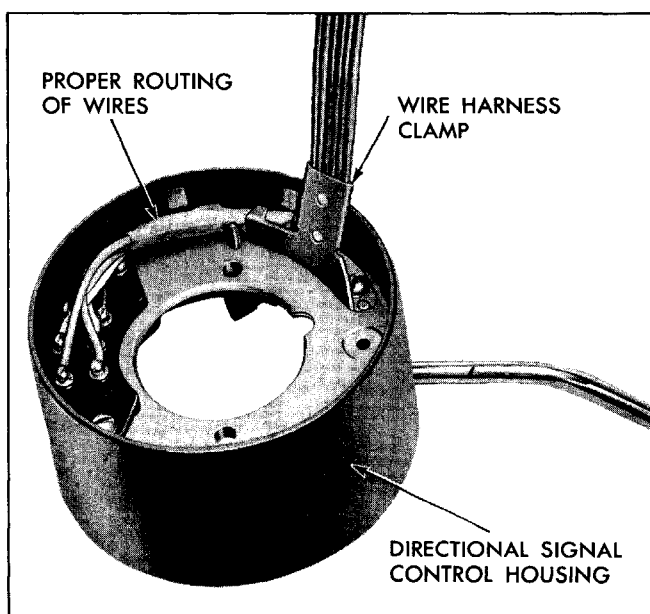

Fig. 7-18 Routing of Direction Signal Wires
16. Install hub cover or direction signal housing with two attaching screws. To simplify installation of direction signal wiring, tape loose ends with scotch tape so that they can be easily guided through openings in steering column jacket. Direction signal wires in housing should be routed as shown in Fig. 7-18 to prevent clamping them between housing and bearing support. Direction signal wire loom should be directed into mast jacket through upper opening (under control lever support cover) and out of mast jacket through opening just below steering column upper bracket.